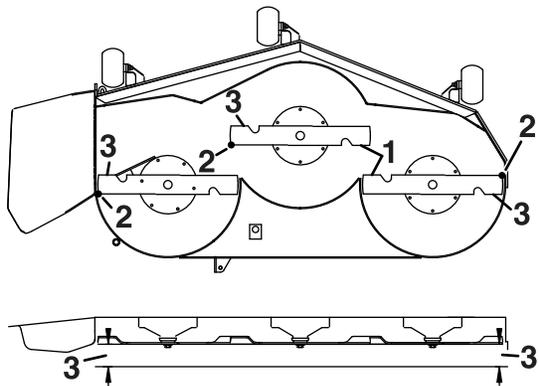

Figure 56
5. Measure between the outside cutting edges and the flat surface (Figure 56).